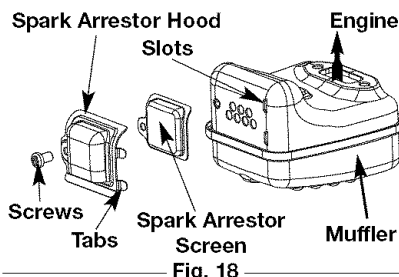

Fig. 18
2. Locate the muffler, **but do not remove it**. Find the screw on the bottom of the muffler (Fig. 18). This screw holds the Spark Arrestor Hood Assembly and the spark arrestor screen to the bottom of the muffler. Remove this screw using either a Torx T20 or flat blade screwdriver.
6. Place the spark arrestor hood on top of the spark arrestor plate with the "raised" side up and the opening facing AWAY from the engine (Fig. 18). Verify that the exhaust will be directed AWAY from the engine.